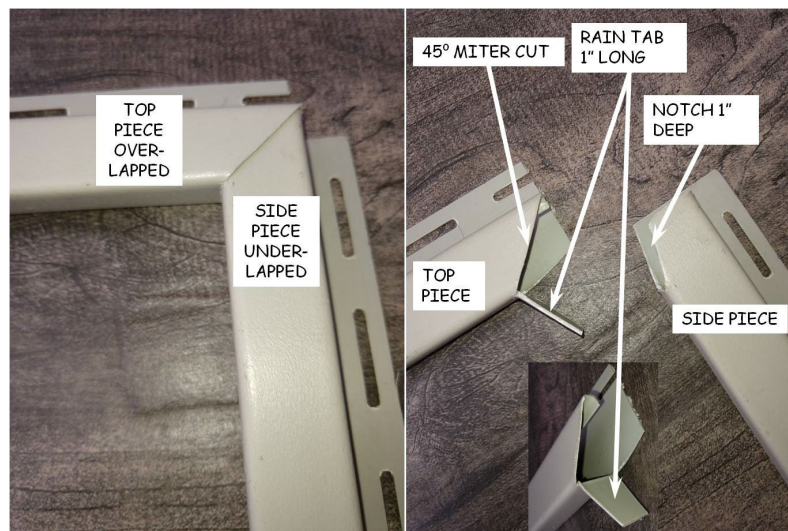

Figure 11-5. J-Channel Upper Corner Detail.
4. For door side pieces, measure from the top of the brickmold to the porch cement, and add 1". Cut J-channel side pieces to that length. Cut a 1" notch in the top end as shown in Figure 11-5. Install the side pieces with the bottom of the notch flush with the top of the brickmold, nailing snugly every fifth slot.
6. Cut a tab on each end of the top piece. Install top piece (nailing snugly every five slots) and fold the tabs down into the vertical pieces (see Figure 11-5) so that water will run off.